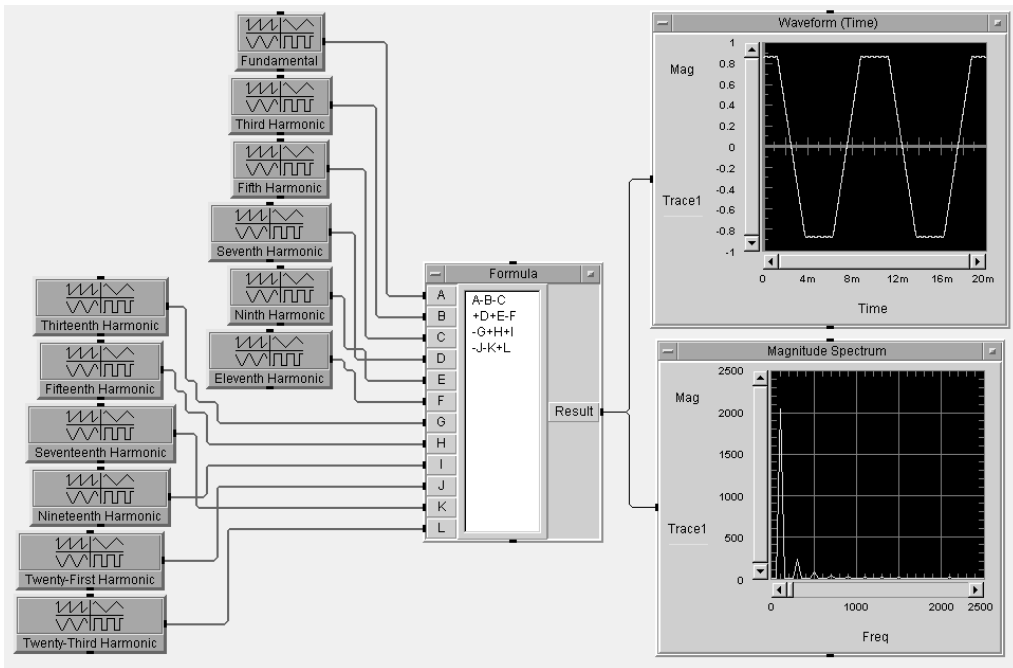

Figure 13.9. Simulation of a trapezoidal wave
7. Run this program; it should look like Figure 13.9.